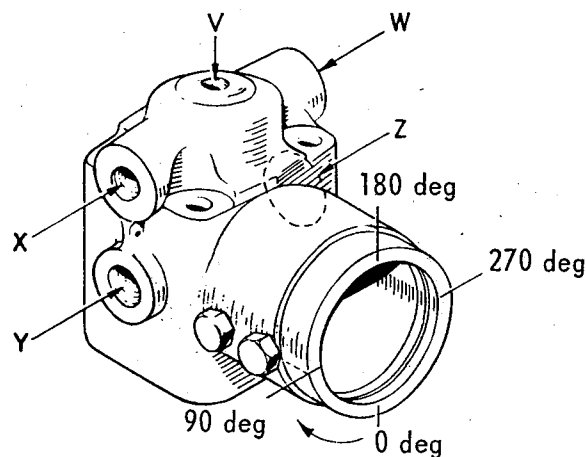

Fig. 2 Connection and bleed screw positions
2. The valve body is divided into two chambers, one containing the hydraulic fluid control mechanism and the other the damper piston. The piston chamber is closed by an end cap which is retained by a circlip, and the chamber wall is tapped to accept two bleed screws. Alternative positions for the bleed screws and for the control chamber fluid ports are given in Table 1 and Figure 2; positions V, W and X are alternative pressure connections and Y and Z return.
TABLE 1 Valve body numbers (fig.2 and para.7)